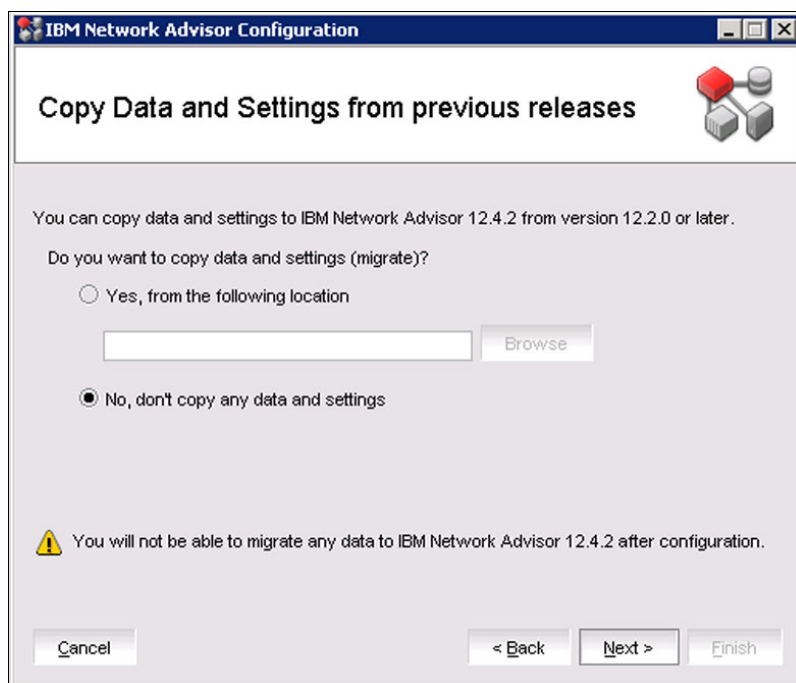

Figure 4-10 Copy data and settings from previous releases window
8. The Copy Data and Settings from previous releases window opens and prompts you for a copy of the data and settings from your previous installation. Because this is a new installation, select **No, don't copy any data and settings** (Figure 4-10). Click **Next**.